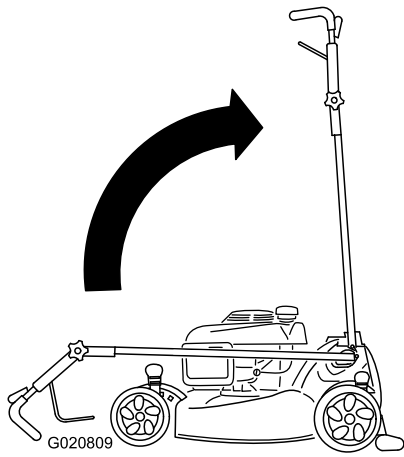

**Figure 51**
1. Step on the foot pedal and hold it down (Figure 51).